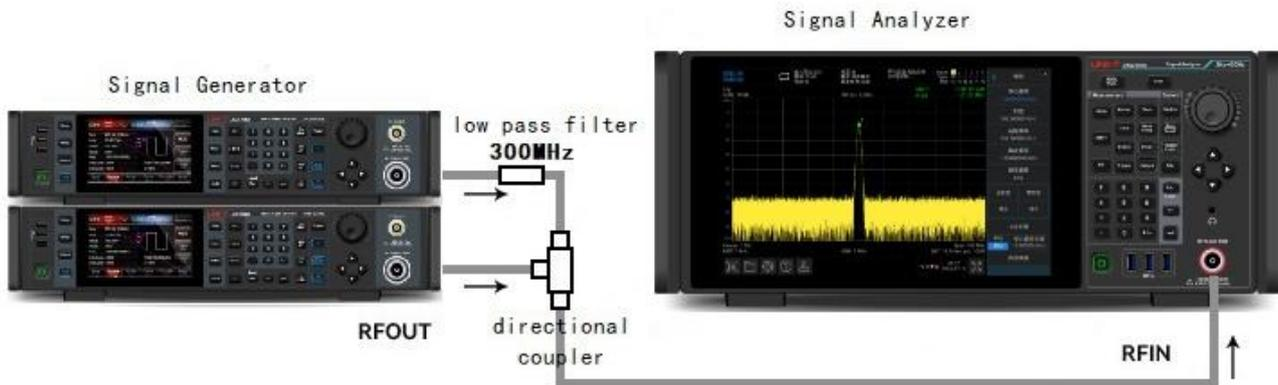

Figure 3-18 Instrument's Setting of Third-order Intercept Point Signal
1. Connect the instrument as shown in Figure 3-18. The two signal generators are connected to